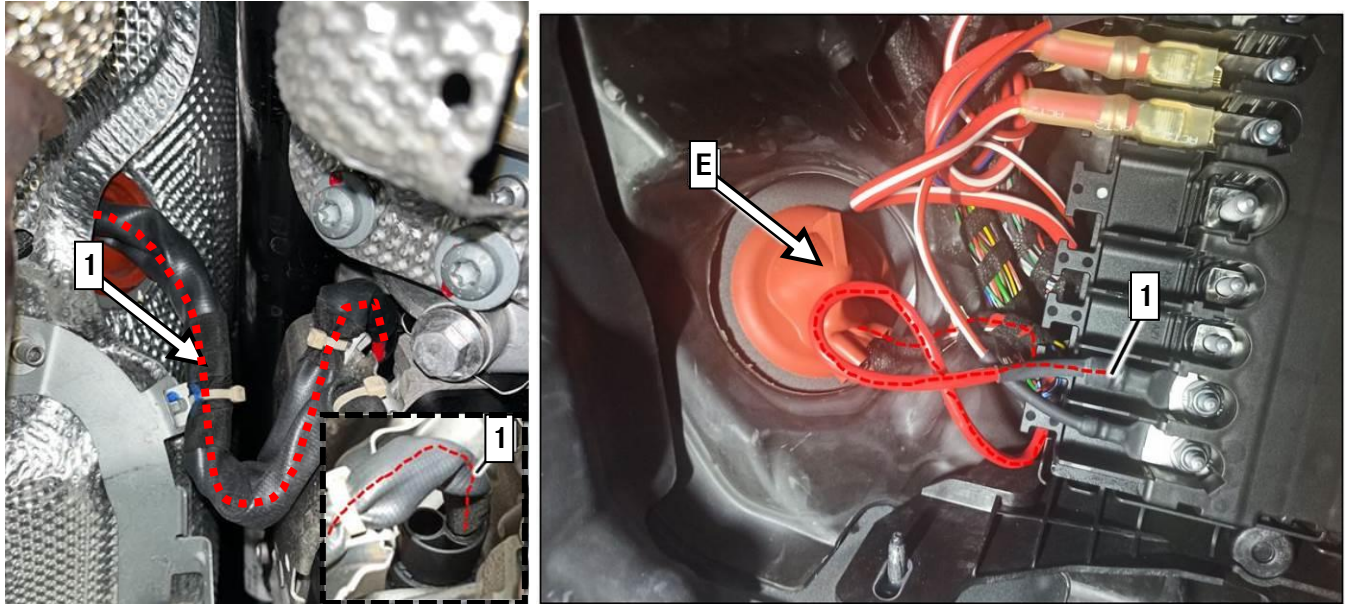

Figure 7
i If the electric power supply line (Figure 7, 1) (line cross-section 10 mm²) is damaged, replace electric power supply line (Figure 7, 1):
4. Detach electric power supply line (Figure 7, 1) from electrical connector on transmission.
6. Remove electric power supply line (Figure 7, 1) with grommet (Figure 7, E).
7. Replace electric power supply line (Figure 7, 1).